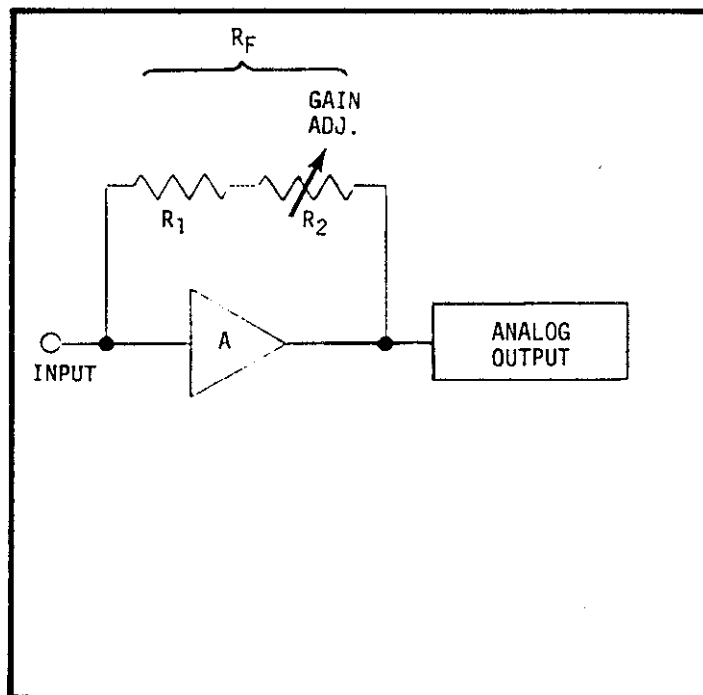
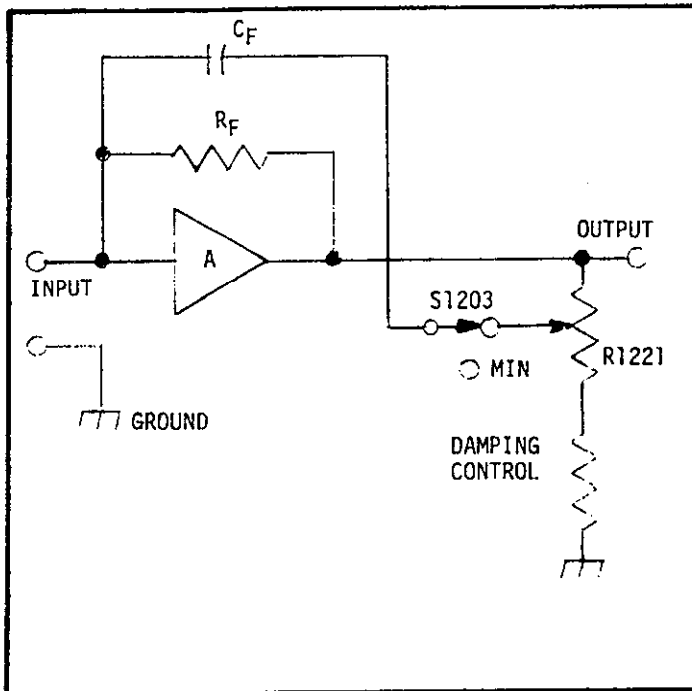
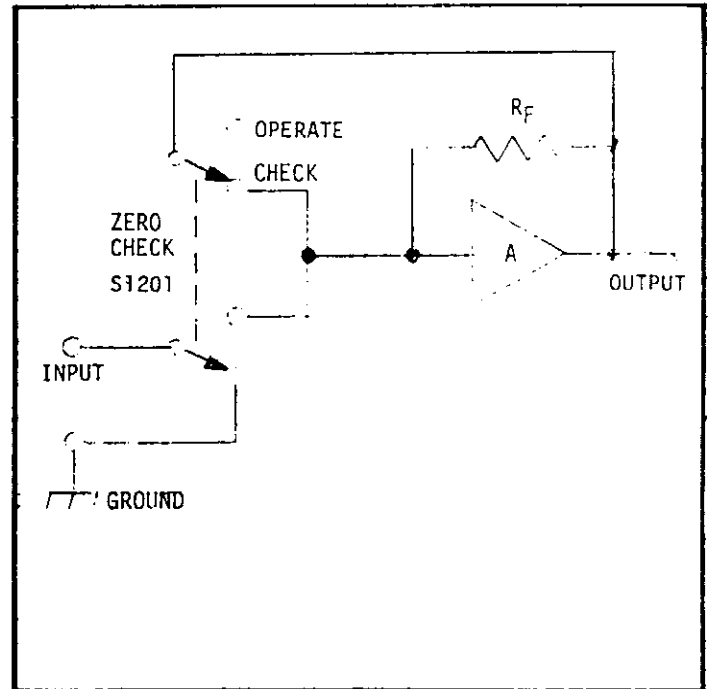

FIGURE 7. Gain Calibration of Amplifier.
FIGURE 8. Damping for Ammeter.
FIGURE 9. Zero Check Operation.
b. Circuitry. The amplifier input stage is a pair of insulated-gate, field-effect transistors (IGFET) designated Q1201 and Q1202 connected in a differential configuration. The circuit designated 21850B is a special overload protection circuit on the Input FET board (which connects to J1201). The gate of Q1201 is connected to the input through 10M ohms. The gate of Q1202 is referenced to ground. Potentiometer R1205 is an internal COARSE ZERO adjustment. Potentiometer R1206 is an internal Balance control. Transistors Q1203-Q1204 form a second differential amplifier stage. Potentiometer R1211 is a front panel ZERO adjustment. Transistor Q1205 and emitter follower transistor Q1206 provide sufficient gain for the analog output and A/D converter. The analog output is connected through R614 (499 $\Omega$ ) to the dc amplifier output (the junction of R1220 and D1203). The full scale current sensitivity is determined by the range resistor connected across the feedback. The range resistance  $R_F$  is composed of a fixed resistance  $R_1$  plus a calibration adjustment resistance  $R_2$  as shown in Figure 7. Potentiometer R1221 controls the amount of damping on the PICO AMP and NANO AMP ranges only. Switch S1203 defeats the damping feature when set to "MIN" or open position. The damping circuit is shown in Figure 8. When switch S1201 is set to ZERO CHECK the picoammeter is connected as shown in Figure 9. It should be noted that the feedback resistor  $R_F$  is shorted out and the input High terminal is shorted to ground.